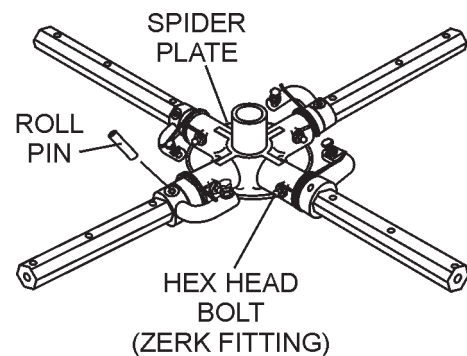

Figure 37. Removing Roll Pin and Zerk Grease Fitting
1. Each trowel arm is held in place at the spider plate by a hex head bolt (zerk grease fitting) and a roll pin. Remove both the hex head bolt and the roll pin (Figure 37) from the spider plate.